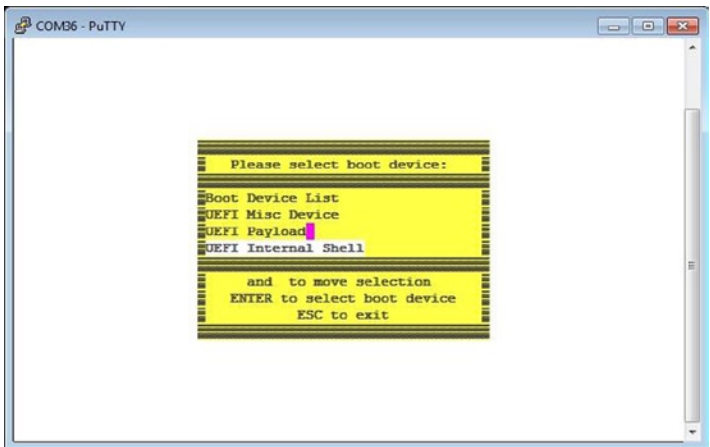

Figure 2-11. Selecting the UEFI internal shell
- 6. In the menu, choose the **UEFI Internal Shell** option by using the arrow keys, as shown in Figure 2-11. Press Enter and then press the ESC key to receive the shell prompt.